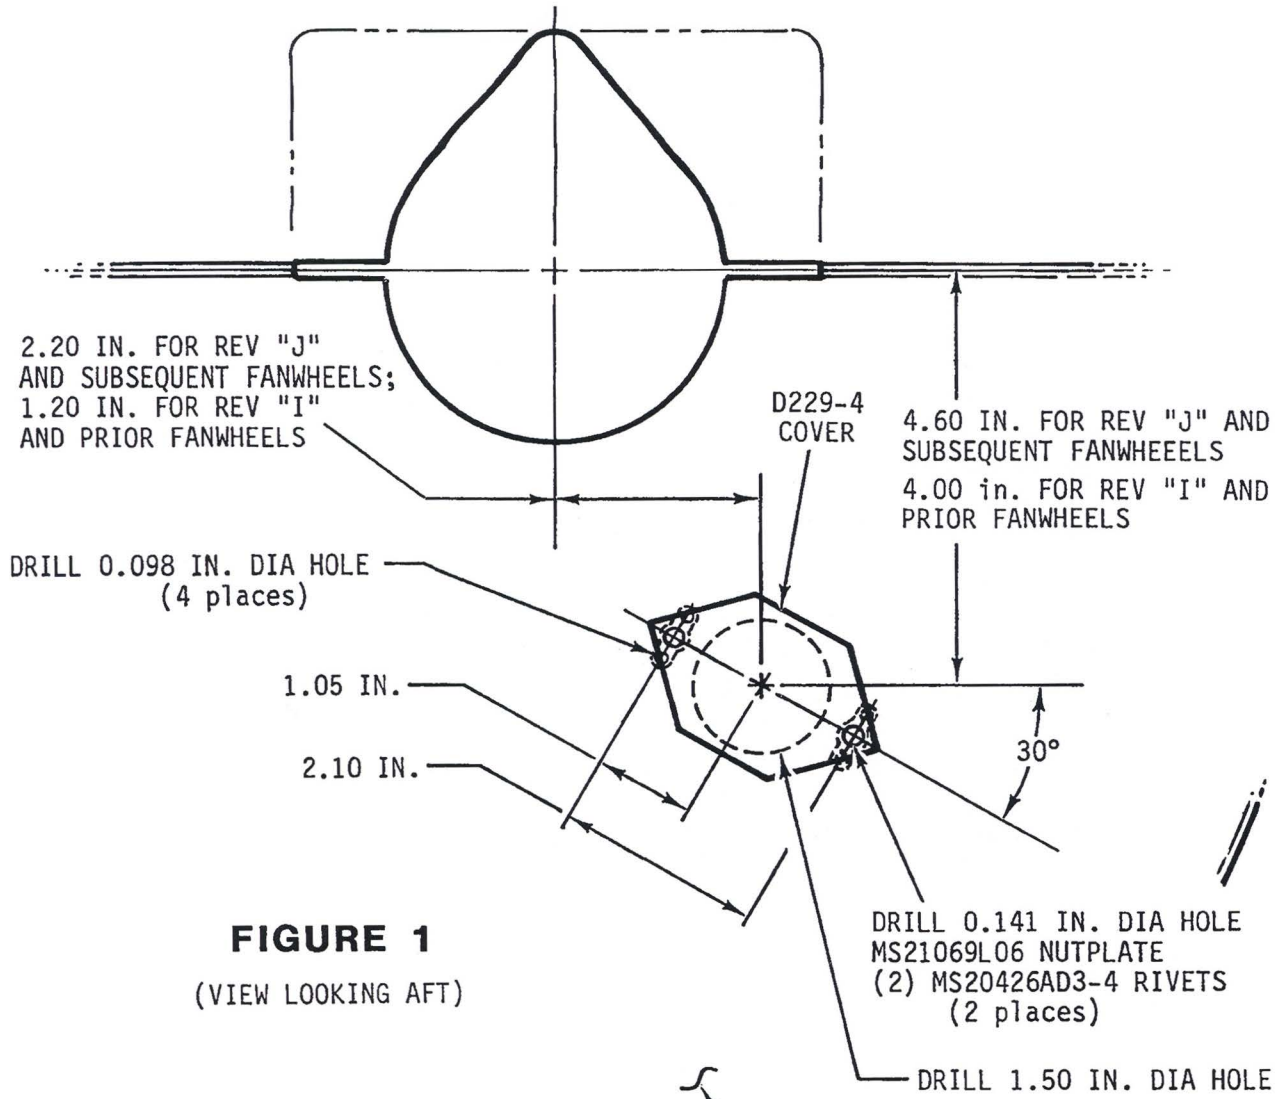

FIGURE 1
4. Using dimensions appropriate to fanwheel revision, locate and drill 1.50 inch diameter hole per Figure 1.
5. Locate and drill two 0.141 inch diameter holes per Figure 1.
6. Locate and orient MS21069L06 nutplates on 0.141 inch diameter holes per Figure 1. Note 30 degree orientation of nutplates. Using nutplates as templates, drill four 0.098 inch diameter holes. Countersink four 0.098 inch diameter holes on outside of scroll as required and attach nutplates to inside of scroll using MS20426AD3-4 rivets.